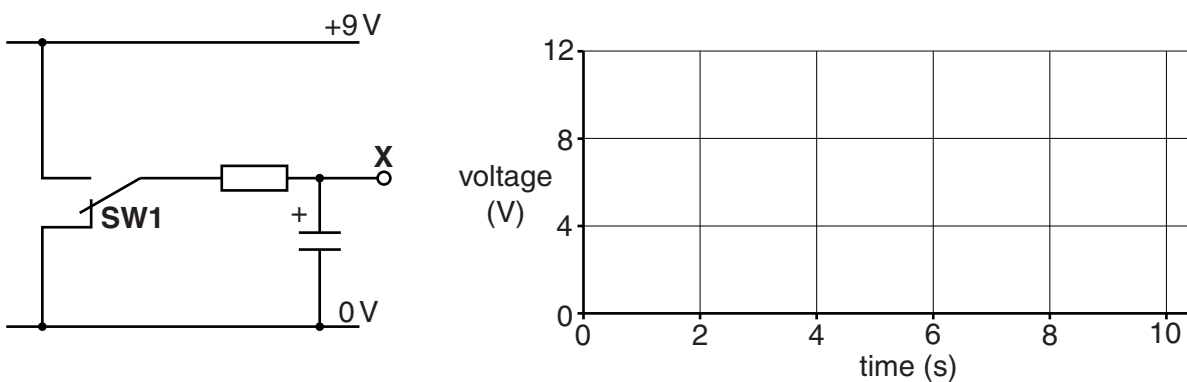

Fig. 19
- (c) (i) Fig. 19 shows a circuit to charge and discharge a capacitor through a resistor.